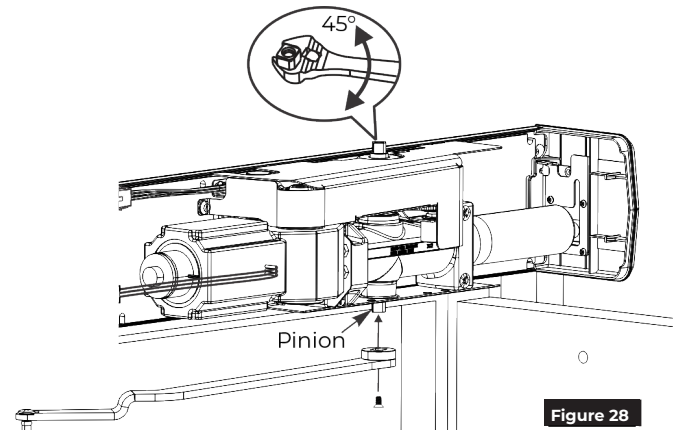

Figure 28
2. Using an adjustable wrench, rotate top pinion 45 degrees toward door hinge. You will feel resistance from spring. (Figure 28)
3. **While holding pinion at 45 degrees**, slide arm on bottom pinion parallel to frame as shown. (Figure 28)
4. Secure arm to pinion with 1/4-20 x 1/2" screw and countersunk patch washer. (Figure 28)